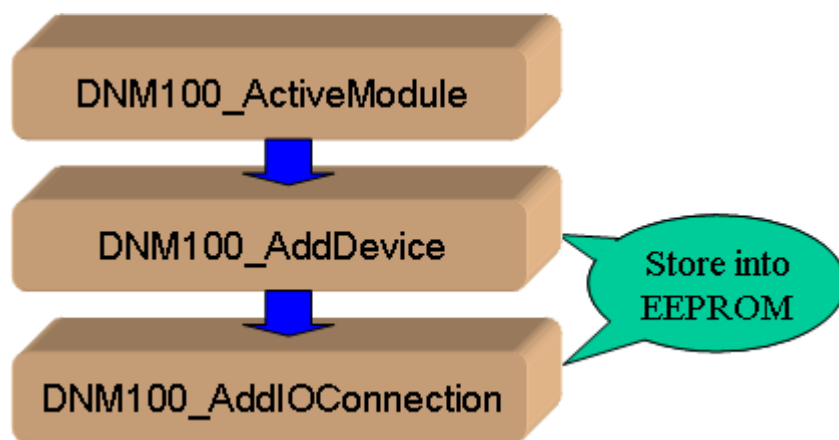

Figure 3.3 Slave Configuration Diagram
After getting the DeviceNet I/O information of the slave devices, users should save the parameters into the EEPROM in PISO-DNM100(U). The EEPROM will store the configuration data. The firmware in PISO-DNM100(U) will load the previous configuration from the EEPROM in the next boot-up. When the devices in the DeviceNet network are changed, the users must set the configuration data to fit the application. The configuration diagram is shown in Figure 3.3. There is more information about those functions in the next chapter.